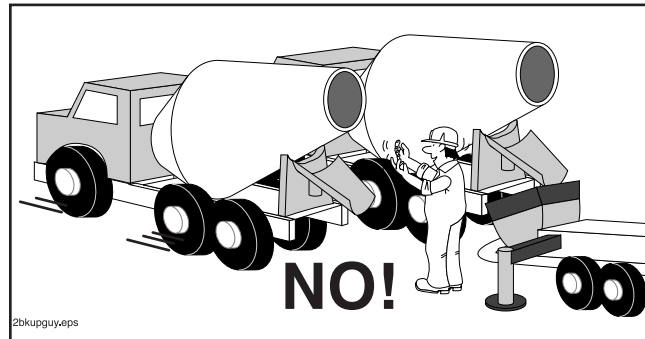

Figure 7
3.1 ⚠️ WARNING! Crushing hazard. NEVER get between the pump and a mixer truck. Never let anyone else stand between the pump and a mixer truck. If more than one mixer truck is delivering to the pump hopper, make sure no one is trapped between the mixer trucks, or between the mixer truck and the concrete pump before you begin backing towards the pump. See Figure 7.